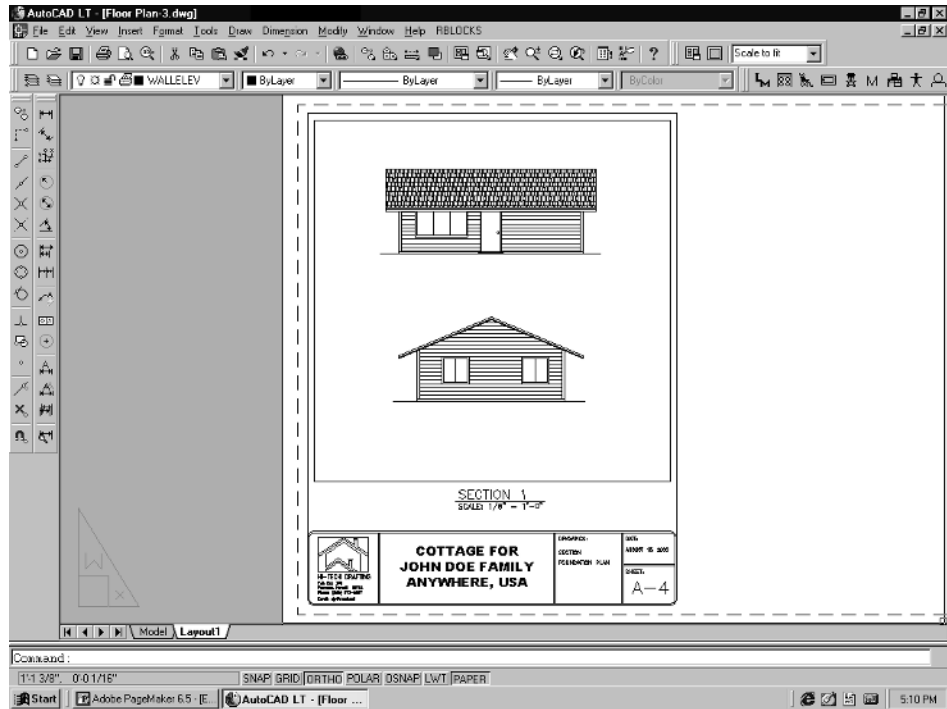

Figure 4-64
2. Once you have the title and scale moved and the viewport stretched down, pick on the **PAPER** button on the status bar. It will change to **MODEL**. Use the Realtime Pan command to move the drawing around. Pan over to the elevations and center them within the viewport, then pick the **MODEL** button on the status bar, changing it back to **PAPER**. See Figure 4-64.